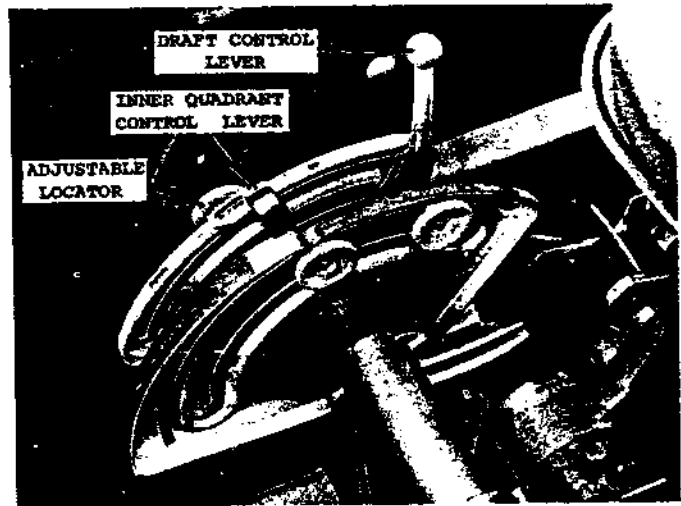

Fig. 12 — Hydraulic Control Quadrant — MF 135 — MF 180 Tractors
5. Move Draft Control Lever until a "Neutral" position is found (cylinder(s) will not "extend" or "retract"). Move adjustable locator to "Neutral" position for later reference. (See Fig. 12)
NOTE: The adjustable locator, Fig. 12, is located at the "Neutral" position for the Draft Control Lever; at this position oil will not leave or enter the hydraulic cylinder(s).